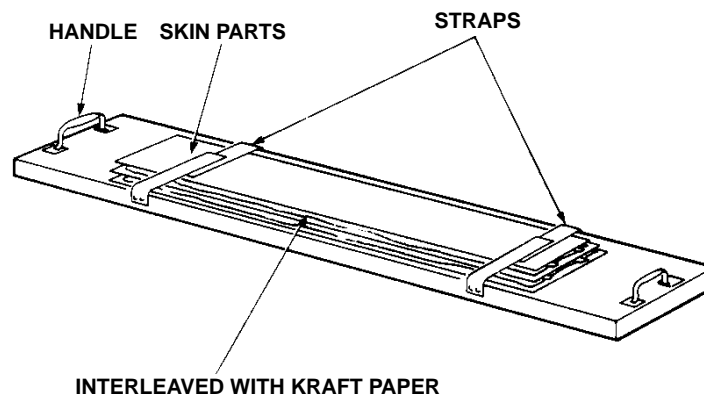

FIGURE 5 - TRANSPORTATION AND STORAGE FIXTURE
5.4.5.1 Transport or store long, flexible, thin gauge (0.32 inches or less) parts in transportation and storage fixtures (see paragraph 4.2.2 and Figure 5).